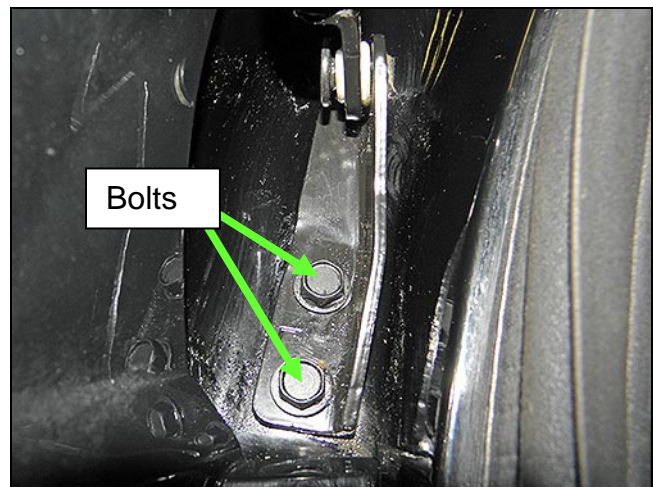

Figure 9
3. Unbolt the back door stay from the vehicle (Figure 9).